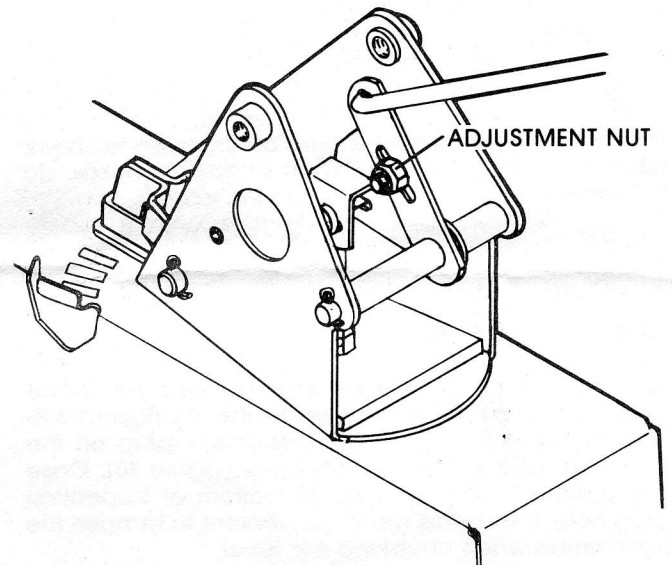

FIG. 8
The clutch control lever is pre-set for neutral shift position. An adjustment means is provided, however, to center the clutch control lever in the slot on the handle shroud should it become necessary due to wear. This adjustment is located at the handle pivot point (Figure 8).
2. Loosen the adjustment nut (Figure 8).
4. Retighten the adjustment nut (Figure 8).